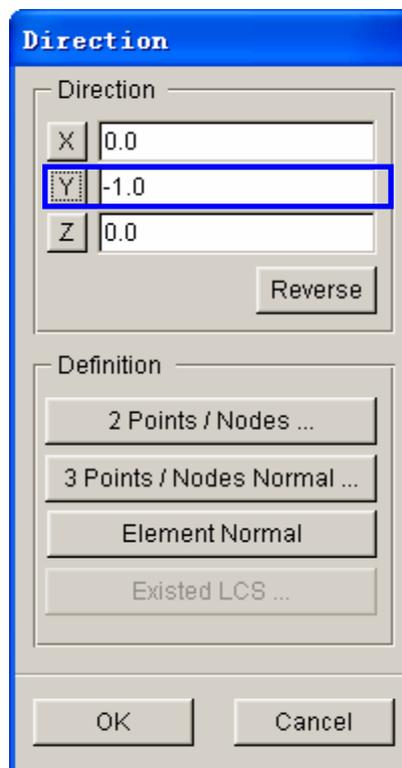

Figure 3.19 Direction dialog box
9. Now, let's define the working direction of up_die. Click **...** button of working direction field to open the DIRECTION dialog box illustrated in Figure 3.19.